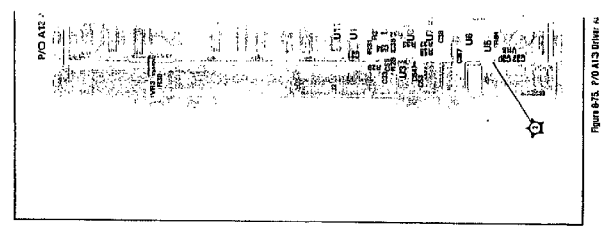

Figure 15. P/O A14 Driver
1. Verify that the voltage from pin 20 of A1310 is ground as shown in Figure 15.